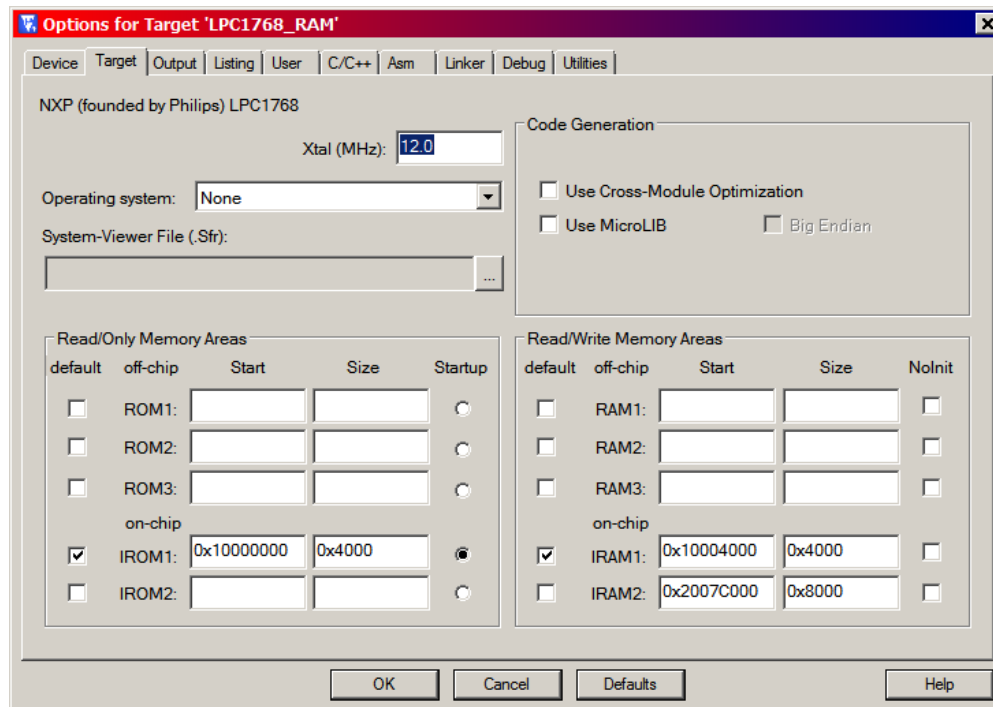

Figure 1.4 – Address settings for LPC1768_RAM target
- Under the **Target** tab, adjust the IROM1 and IRAM1 addresses according to figure 1.4.